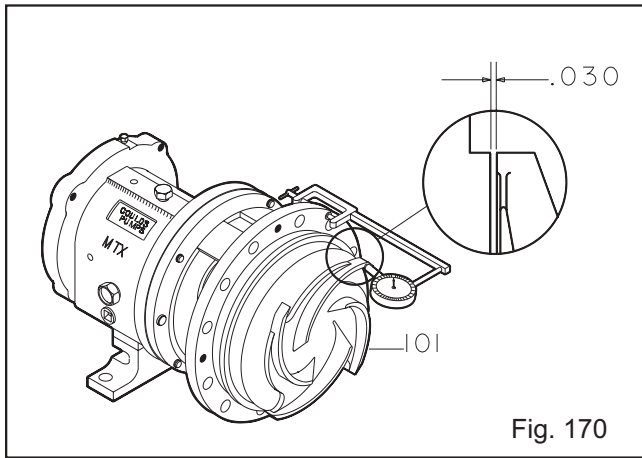

Fig. 170
6. Check impeller runout. Check vane tip to vane tip. Total indicator reading greater than 0.005 in. (.13 mm) indicates a problem (Fig. 170).